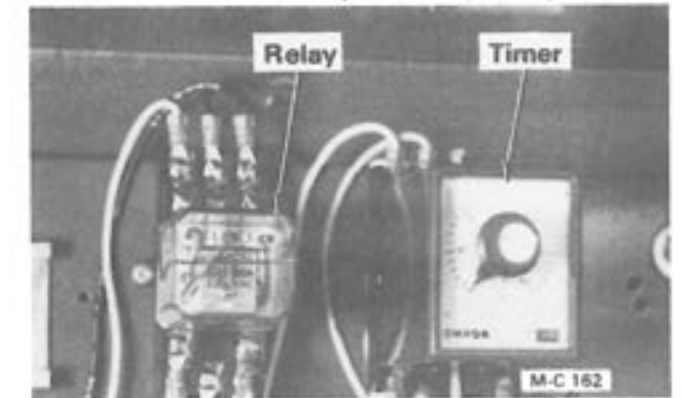

Figure 12 - Low Grain Level Timer
3. Average the 6 refill times and set the Low Grain Level Timer, Figure 12, to run 2 to 3 minutes longer than this. For example, if it takes the level auger an average of 5 minutes to refill the dryer (including the 1 minute delay), set the Low Grain Level Timer to run 7 or 8 minutes.